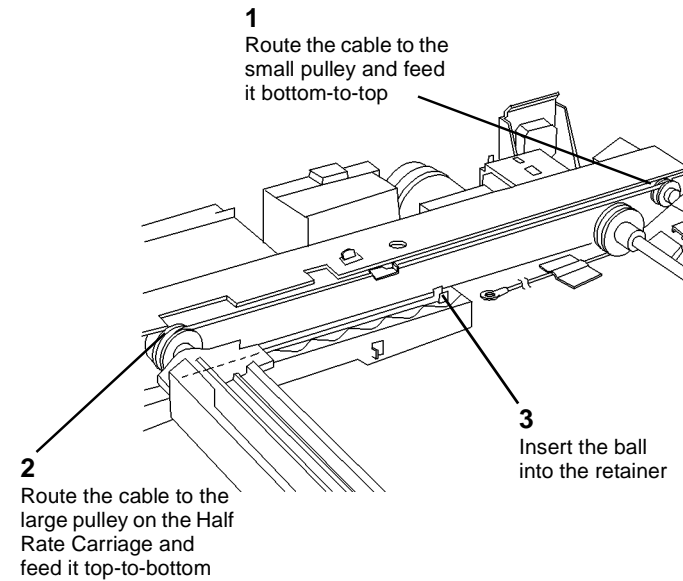

Figure 8 Installing Carriage Cable (ball end)
2. Install Carriage Cable (ball end) (Figure 8).